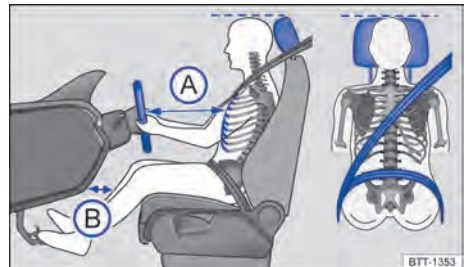

Fig. 23 Correct distance between the driver and the steering wheel, correct seatbelt position and correct headrest adjustment.
- Adjust the seat so that the distance between the steering wheel and the driver's chest is at least of 25 cm → Fig. 23 (A) and so the driver can firmly hold the steering wheel by its outer rim with both hands and with slightly flexed arms.
- Adjust the driver's seat lengthwise so that the pedals may be reached with slightly flexed legs and so that the distance between the knees and the dashboard is at least 10 cm → Fig. 23 (B).
- Adjust the head rest so its top edge is at the same height as the top of the head → Fig. 23 – but not below eye level. Position the back of your head as close to the head restraint as possible.